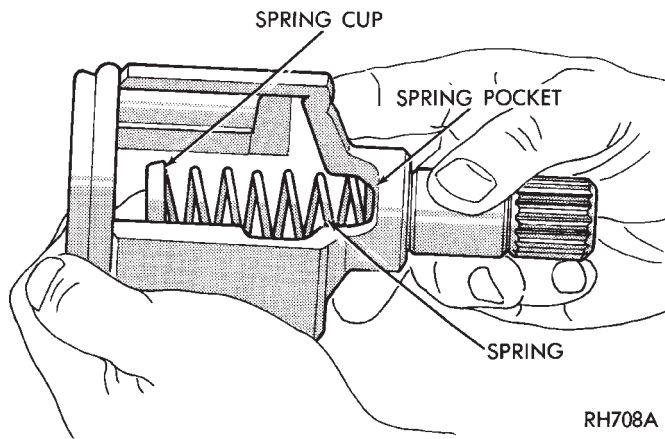

Fig. 21 Spring and Cup Installation
(1) Distribute 1/2 the amount of the grease provided into the housing and the remaining amount into the boot.
(2) Position the spring in the housing spring pocket with the spring cup attached to the exposed end of the spring (Fig. 21). Place a small amount of grease on the concave surface of the spring cup.
CAUTION: Care must be taken to ensure proper spring positioning. The spring must remain centered in the housing spring pocket when the tripod is installed and seated in the spring cup (Fig. 21).